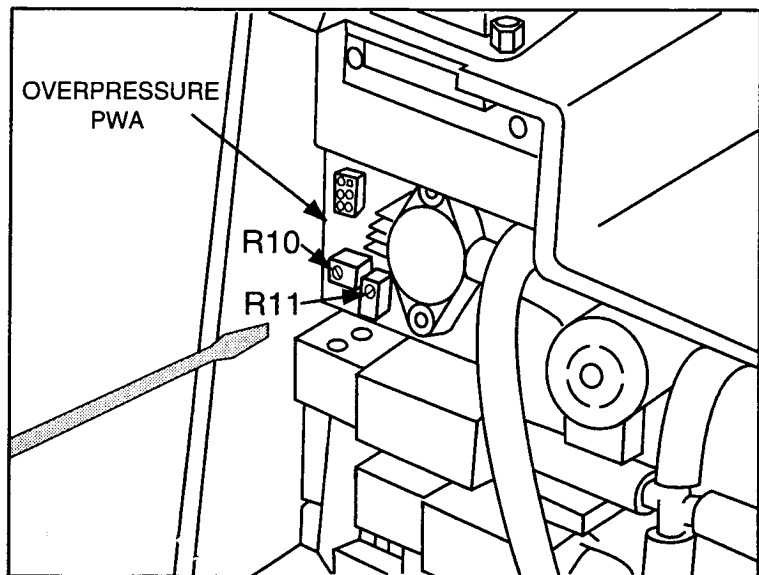

Figure 3-12. Overpressure PWA Adjustments
10. If the pressure is out of range for either mode, adjust the overpressure points (see Figure 3-12) using adult control R10 and neonate control R11 on the overpressure PWA. R10 is located at the upper left and R11 is located at the lower right.